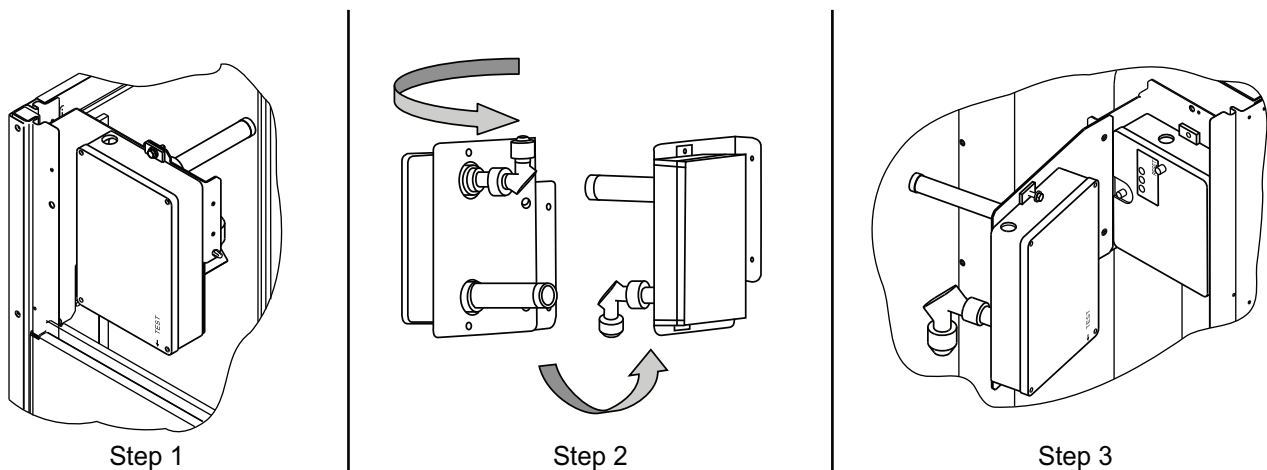

Fig. 69 — Completing Installation of Return Air Smoke Sensor
1. Unscrew the two screws holding the return-air smoke detector assembly. See Fig. 69, Step 1.
3. Turn the assembly 90 degrees and then rotate end to end. Make sure that the elbow fitting is pointing down. See Fig. 69, Step 2.
4. Screw the sensor and detector plate into its operating position using screws from Step 1. See Fig. 69, Step 3.